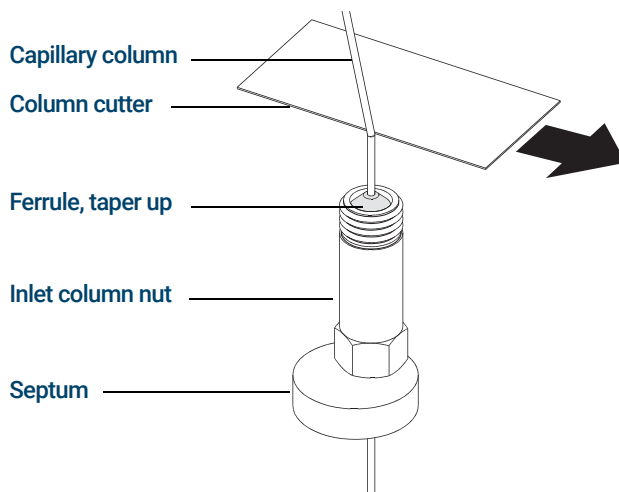

Figure 3. Preparing a capillary column for installation
- 2 Wearing clean gloves, press the column through the septum (this takes a bit of pressure). Then slide the column nut and conditioned ferrule onto the free end of the column. (See **Figure 3**.) The tapered end of the ferrule should point away from the column nut.